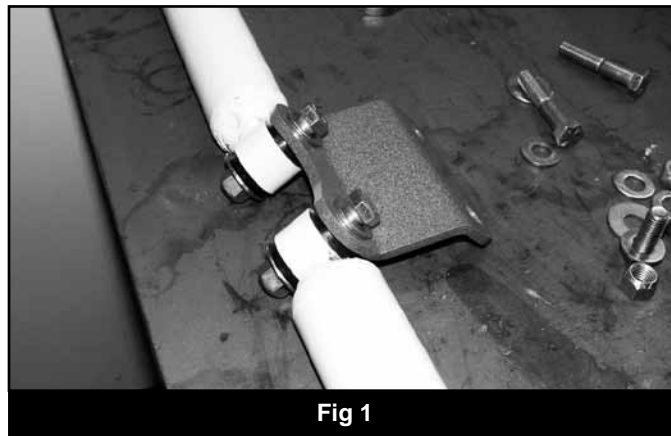

Fig 1
3. Locate the provided center offset mounting bracket (01540). Loosely install the body end of the stabilizer cylinders to the bracket with 1/2" x 2-1/2" bolts, nuts and 1/2" washers using the holes on the contoured end of the bracket. Use a SAE (small) washer at the bolt head and a USS (large) washer at the threads (Fig 1) The cylinders mount to the outside surface of the bracket (opposite the bend) – see figure 1. The bolt heads must be to the inside of the bracket (bend side).